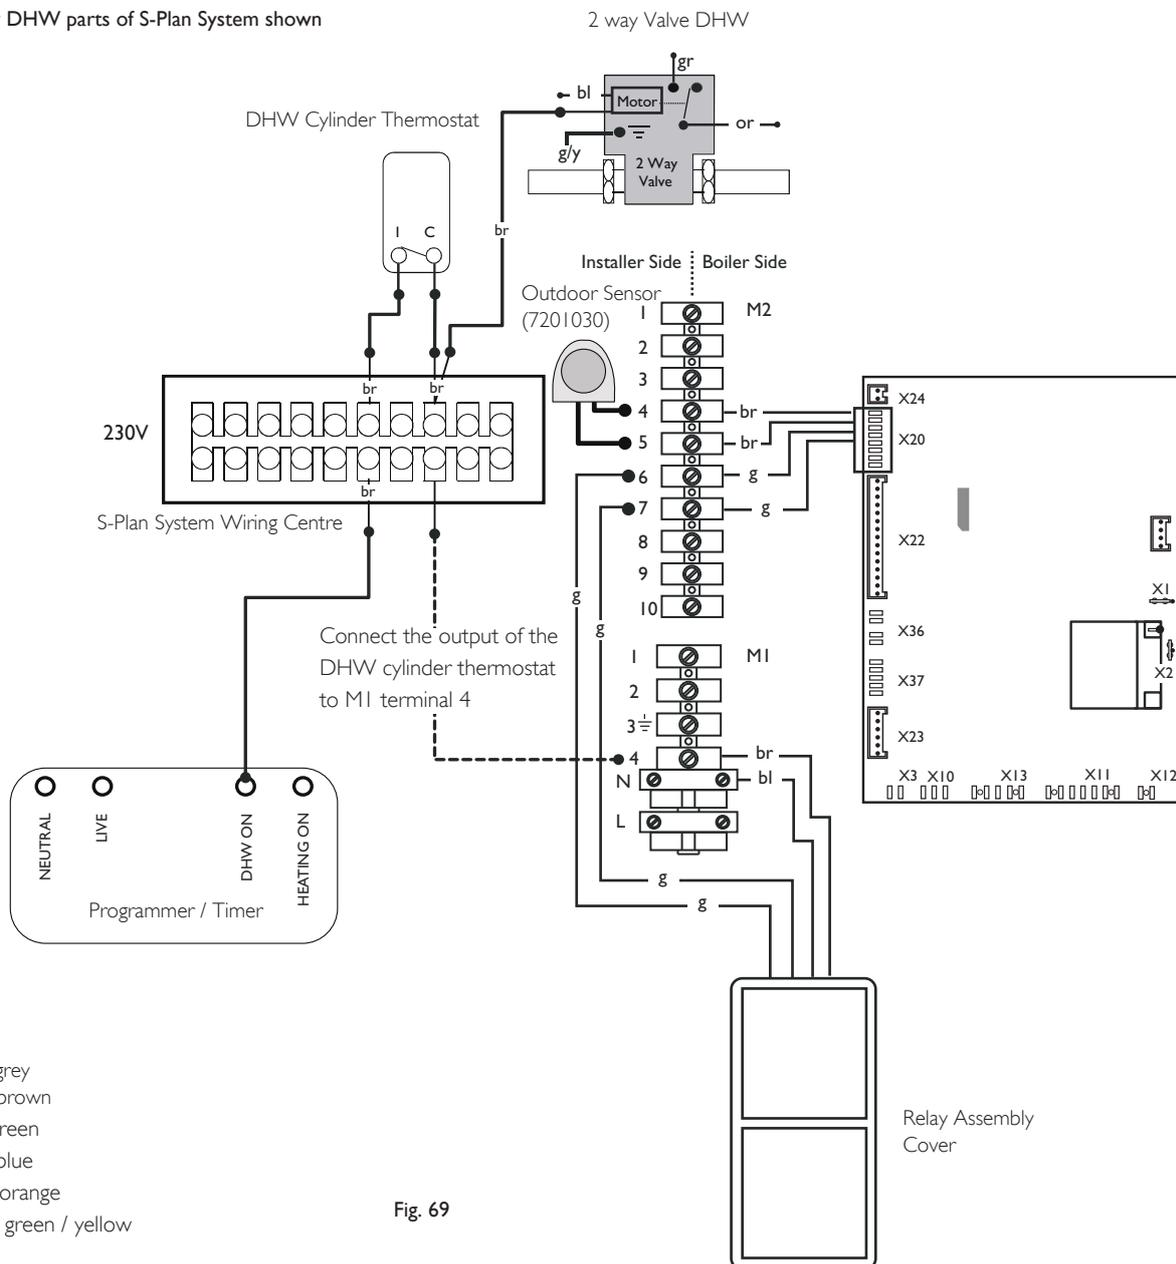

Fig. 69
15. Connect the output of the DHW cylinder thermostat to the installer side of M1 terminal 4 (Fig. 69).